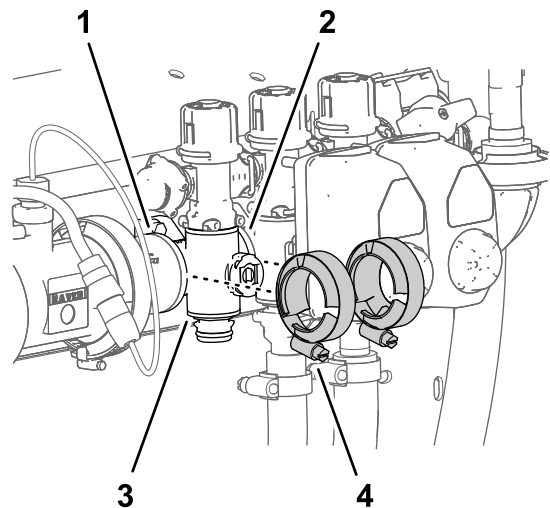

Figure 117
4. Loosely assemble the flange clamps that you removed in Removing the Section-Manifold Valve \(page 79\) to the flanges of the section-valve manifold and the flanges of the other section-valve (s) and/or coupling adapter (Figure 117).
7. Tighten the 2 flange clamps by hand (Figure 117).